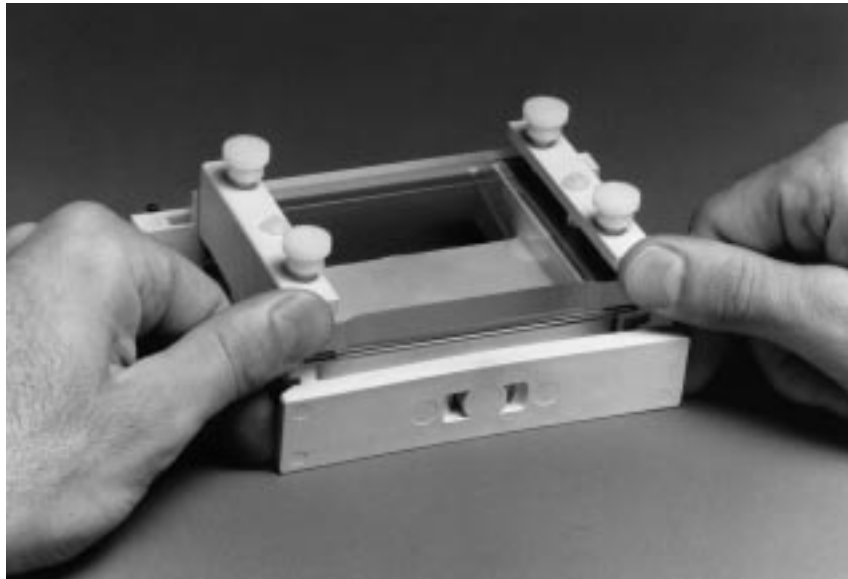

Fig 8.1
3. Lay the inner cooling core on its side and remove the clamp assembly by pushing down on both sides of the cooling core latch and up on the clamps until the clamp assembly is released (Figure 8.1). Slide the clamp assembly away from the cooling core.